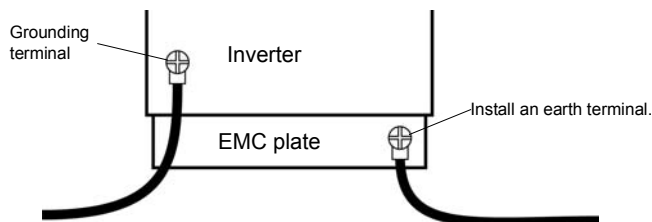

Fig. 4
- (1) Install the inverter in a cabinet and ground the inverter enclosure. When doing maintenance, be extremely careful not to put your fingers into the inverter through a wiring hole and touch a charged part, which may occur depending on the model and capacity of the inverter used.
(2) Do not connect two or more wires to the main circuit earth terminal of the inverter. If necessary, install an additional earth terminal on the EMC plate on which the inverter is installed and connect another cable to it. (Refer to Fig. 4.) See the table of section 10.1.
(3) Install a non-fuse circuit breaker on the input side of the inverter.